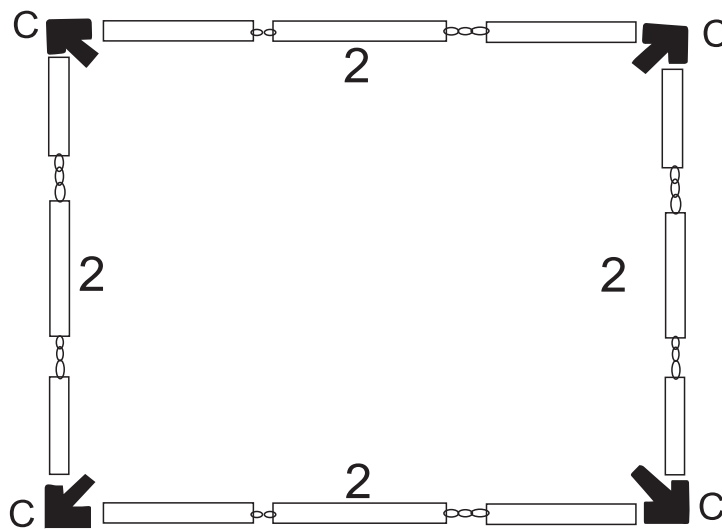

Fig. 1
CONNECT POLES NO. 2 TO BE A WHOLE BAR, CONNECT THE BARS TO THE CORNER CONNECTOR (C) MAKING SURE TO CLICK INTO PLACE TO FORM A SQUARE TOP FRAME AS SHOW IN FIG. 1.